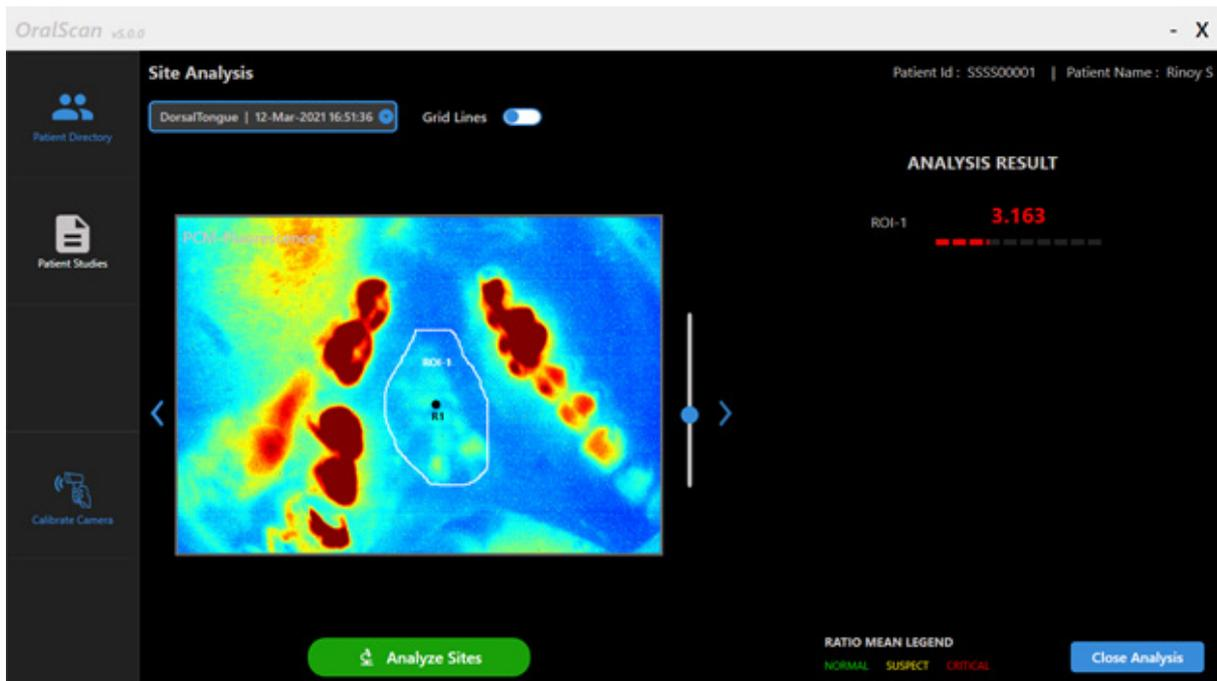

Figure 8. PCM of HbO₂ absorption map with Rols marked and the most malignant site marked as a black spot with the R620/R545 ratio value displayed on screen.
The 3 monochrome images of the lesion captured, representing the tissue autofluorescence (with violet LED illumination) and diffuse reflectance (DR) images with the green and red LEDs, and the red/green image ratio gets displayed on screen. Any number of images can be captured from the same site and all these files will get saved in the Tablet memory under different file names. The same step may be repeated to capture multiple sets of images of the affected area in the same anatomical site or other sites. When the user presses the continue button, the program moves to the Site Analysis window, where the user can visualize the captured and processed images one after the other by pressing the arrow buttons on either side of the image. The colour gradation in PCM of the R620/R545 image ratio, representing the HbO₂ absorption changes in the tissue, and the PCM-Fluorescence map can be adjusted by up or down movement of the slider on the right side of the image. This helps to evaluate changes in tissue abnormality across the lesion and locate the most malignant site for biopsy. The user shall also have an option to analyze all of the captured set of images in the analysis screen by selecting the image set from the drop down option provided above the displayed image (Figure 8).
On completion of the image capture, the monochrome and processed images are viewed on screen and the user marks the area surrounding the abnormal lesion by observing the PCM of tissue fluorescence and the processed DR red/green (R620/R545) ratio image. After the ROI is marked with the stylus pen or the mouse pointer on the fluorescence image, the Analyze Sites button is clicked (Figure 8) and the R620/R545 PCM ratio is viewed. The program will now automatically locate the site (black spot) with most malignancy based on the DR ratio
The DR ratio value represented in Figure 8 serves as an indicator to assess the tissue status and helps in deciding whether follow-up is required or not, and/or a biopsy is warranted for pathological confirmation of the cancer grade. Higher DR ratio values are indicative of higher levels of tissue abnormality. Also, the site marked representing the highest value of DR ratio in the ROI shall be considered for the biopsy.